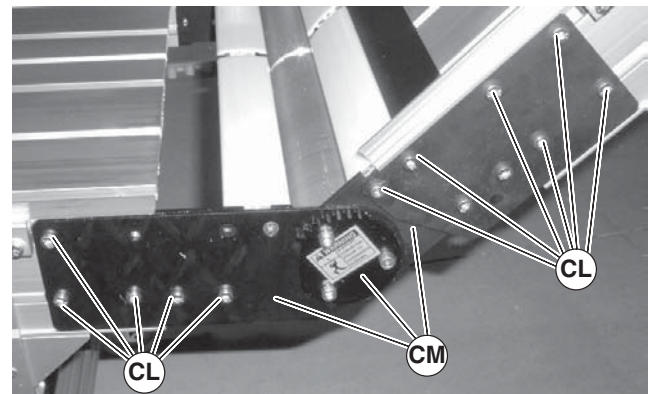

Figure 81
- On one side of knuckle, remove screws (Figure 81, item CL) and knuckle plate assembly (CM).